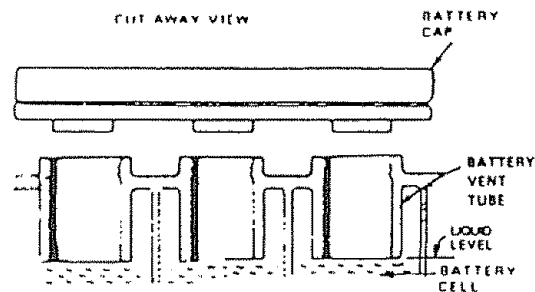

FIGURE 14
- a. Battery acid solution level in each battery cell should be even with bottoms of vent tubes in cells (Fig. 14). Add ONLY distilled or iron free water if necessary. NOTE: DO NOT OVERFILL.